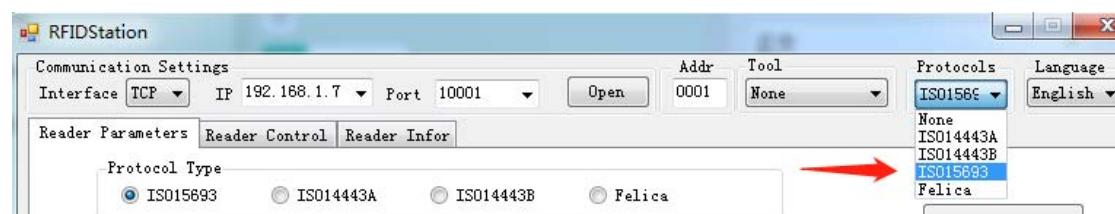
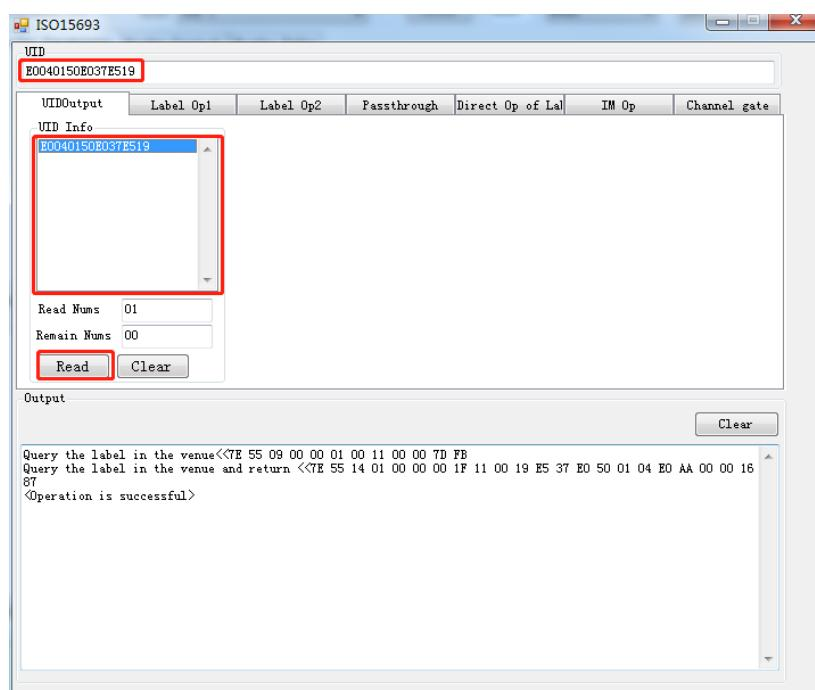

Figure 2.6 Label Operation selection
Figure 2.7 ISO15693 Label Operation window
Then select “ISO15693” protocol as shown in figure 2.6, and an “ISO15693” label operation window pops up as shown in figure 2.7.
- ① If ISO15693 label operation window shown in Figure 2.7 was closed unexpectedly during operation, click the label operation selection box shown in Figure 2.6 again.**